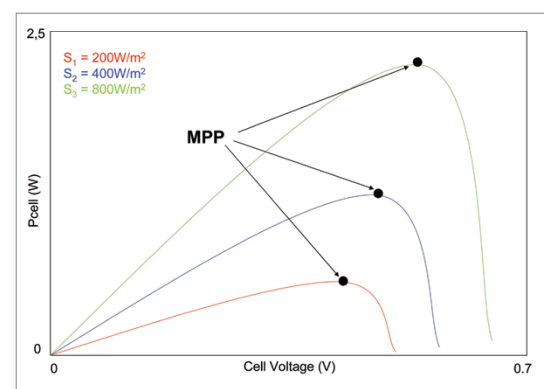

Figure 1: Power-Voltage Curve of a photovoltaic cell for differing light levels
Photovoltaic (PV) panels generate current / voltage with a highly variable behaviour due to the fluctuations in energy flow from the sun. The typical behaviour of the power generated by a panel for varying levels of sunlight is outlined in Figure 1. For each level of radiation, there is a point at which the panel gives the Maximum Power Point, or MPP.
able performance improvements of the PV energy generation facility. Looking again to Figure 1, we see the working curve of a generic solar cell, and from that we can adapt the MPPT inverter systems to work with the entire PV array, to remain as close as possible to the MPP.